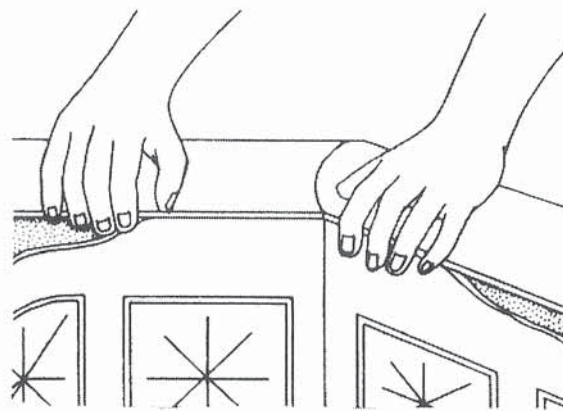

Figure 23: Liner Bead Installation
7. From the outside of the pool, snap the liner bead into the liner track in each shallow-end corner (see Figure 23). Continue snapping the bead into the track across the shallow end of the pool. Now, start down the long sides, toward the deep end. Several feet past the break point, stop and square the liner over the break point, using the seam as a guide. When the liner is square, continue snapping the bead into the track, being careful not to overstretch the liner. Push the liner bead into the liner track completely to insure proper locking.